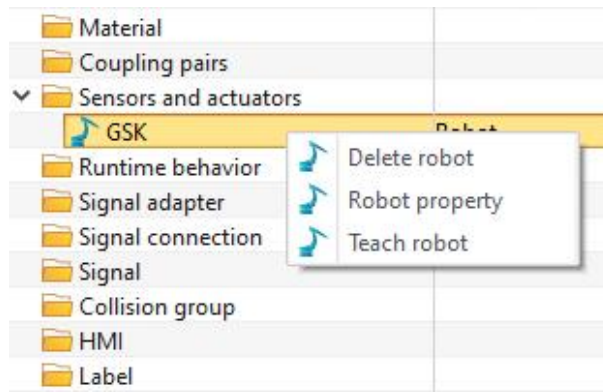

Figure 8-25: Teach Robot
- Right-click on the created robot and select "Teach Robot". (Figure 8-25)